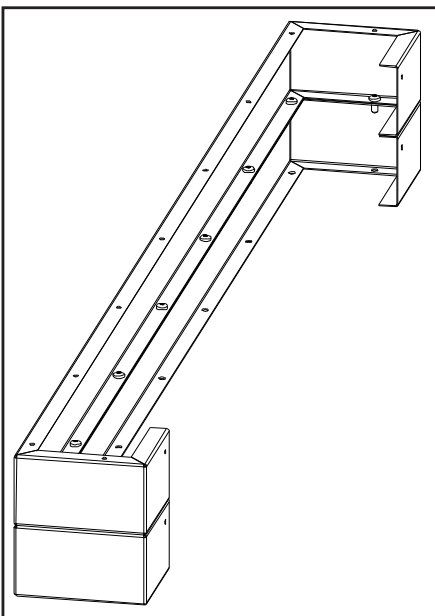

Figure 42: Combining 2 Base Shelf Riser.
2. When using more than one riser each level must be attached using nine (9) #8 T-20 screws provided (see Figure 42).